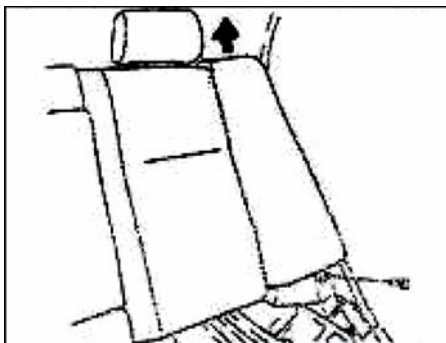
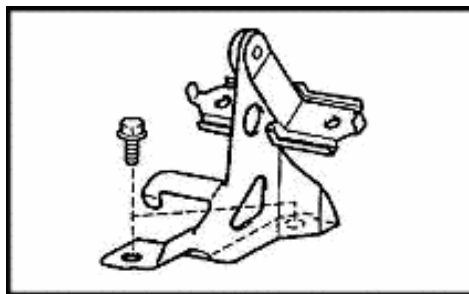

Fig. 7-13
Fig. 7-14
- ① Open the front part of the rear seat back cover.
- ② Incline the seat back assembly.
- ③ Remove the two bolts and the seat back.
- (5) Remove the left rear seat side back assembly, bolts and the seat back assembly, as shown in Fig. 7-13.
- ① Remove the bottom fixing bolts on the left side back of the rear seat.
- ② Pull out the left side back and the Fig. 7-13 may be referred.
- (6) Remove the rear seat right side back assembly, bolts and side seat back.
- ① Remove the bottom fixing bolts on the rear seat right side back.
- ② Pull out the right side back.
- (7) Remove the left hinge of the rear seat back, bolts and hinge.
- (8) Remove the right hinge of the rear seat back, bolts and hinge.
- (9) Remove the central hinge of the rear seat back, as shown in Fig. 7-14.